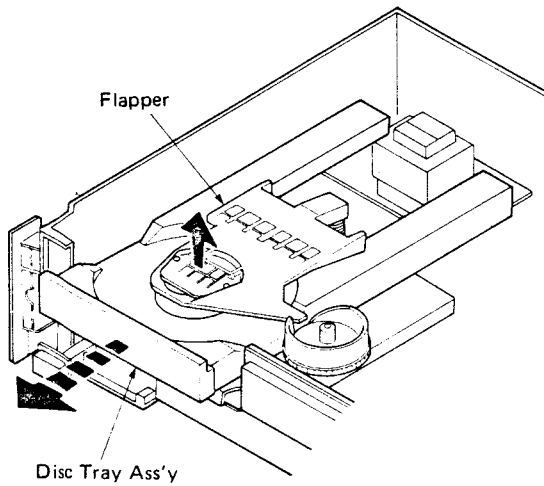

Fig. 2
- a. Lift Flapper as shown in Fig. 2, and pull Disc Tray Ass'y forward.